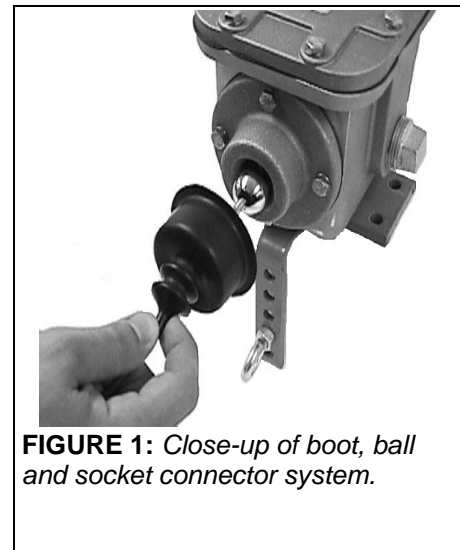

FIGURE 1: Close-up of boot, ball and socket connector system.
- The force required to extract the ball end of the pull cable from a detector unit increases proportionally with the distance from the detector. Therefore, the cable extending beyond the midpoint of the installed cable span, and the anchoring point of the cable on the opposite side, is considered inactive for damage detection purposes. Thus, a second unit is mounted opposite the first to effectively cover this inactive section. (See Figure 1).
- Detection units must be mounted high enough for the cables to cover the entire active area under the belt. In other words, the cables must follow the contour of the belt closely enough to detect damaged sections of the belt both at the center and near the edge. The cables should not exceed a maximum of 2" below the belt (See Figure 1).